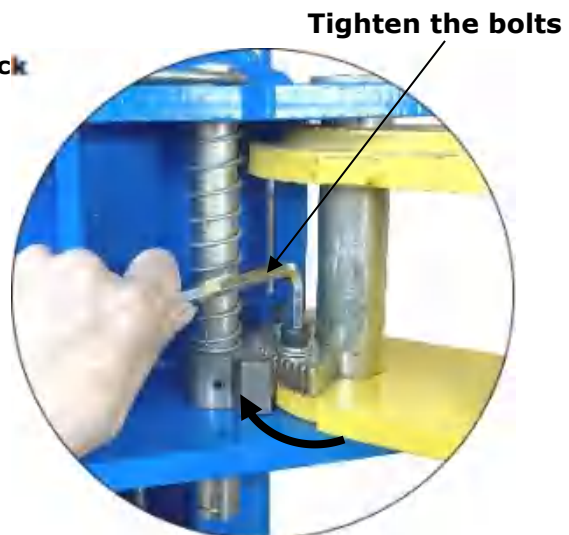

Fig. 47
4. Adjust moon gear and arm lock to make it to be meshed, then tighten the socket bolts of arm lock (**See Fig. 47**).